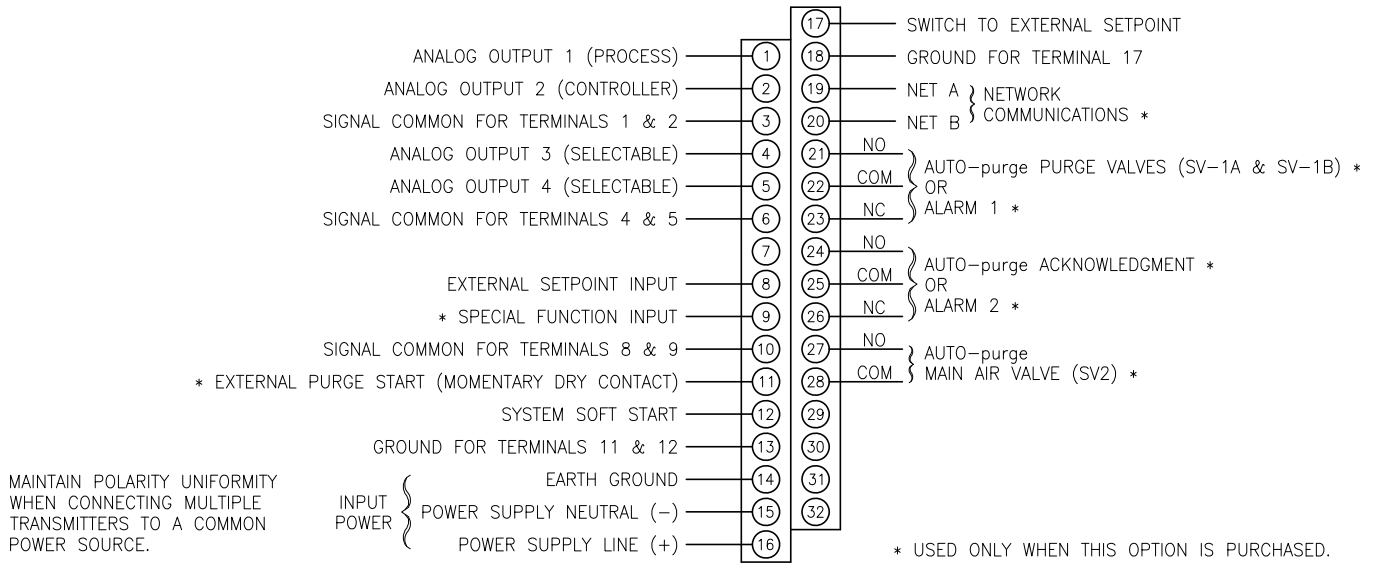

Figure 4.3
All power and signal wiring is done at the terminal strip at the left side of the VEL-trol II. Figure 4.3 below represents the terminal strip and the connections for power input and the various inputs/outputs available (review Factory Set-Up Information Sheet for which inputs/outputs are included with your unit).
- Customer to connect according to desired alarm logic. Figure 4.3 indicates de-energized (alarm off) state.
- For Alarm Option. Customer to connect according to desired alarm logic. Figure 4.3 indicates de-energized (alarm off) state.